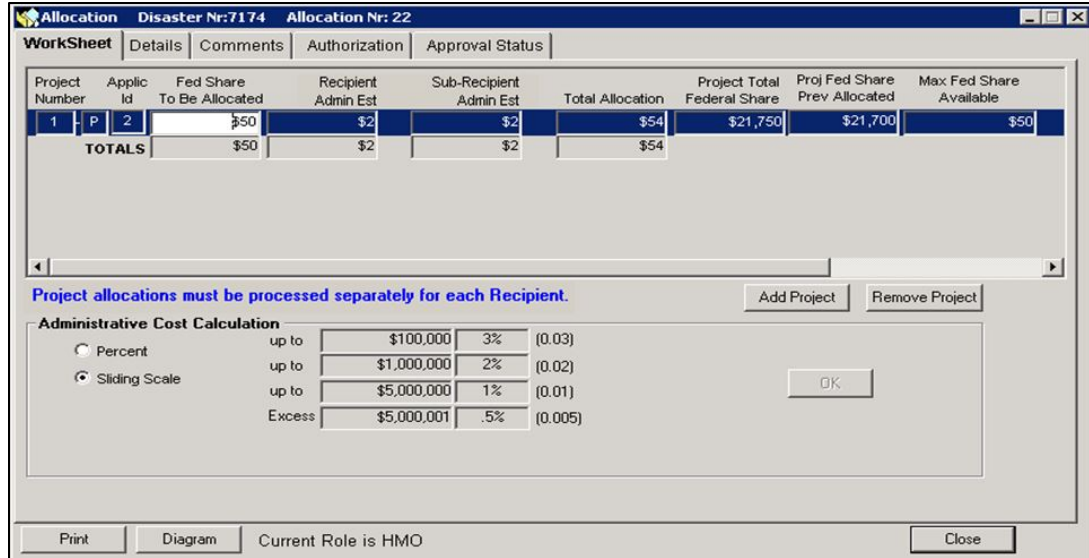

Figure 10-10: Allocation using the Sliding Scale radio button to ensure proper allocation
13. When allocating project funds as well as Recipient and Subrecipient Administrative funds, always use the sliding scale radio button to ensure the Recipient and Subrecipient Administrative funds are calculated correctly by the system and included in the Total Allocation field along with the Project Amount to be allocated (Figure 10-10).